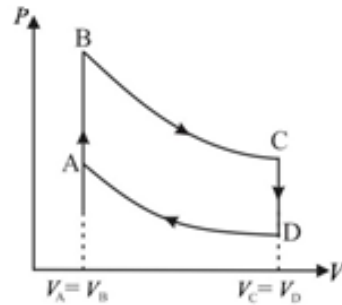

Fig: 12.2.10
Q.12.2.3 Cyclic process, followed by an engine (made of one mole of perfect gas in a cylinder with a piston) is shown in Fig.12.2.10. The different steps of this cycle are carried out as per the following sequence: